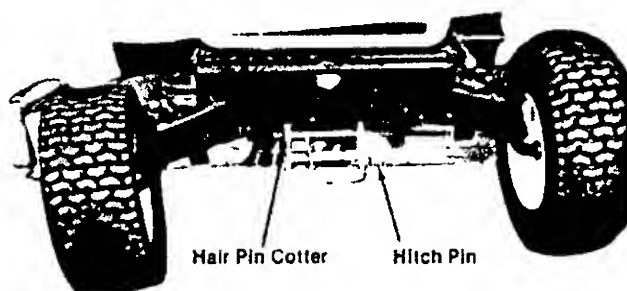

FIGURE 26.
2. Remove the harpin cotter and pull out the hitch pin. See figure 26.